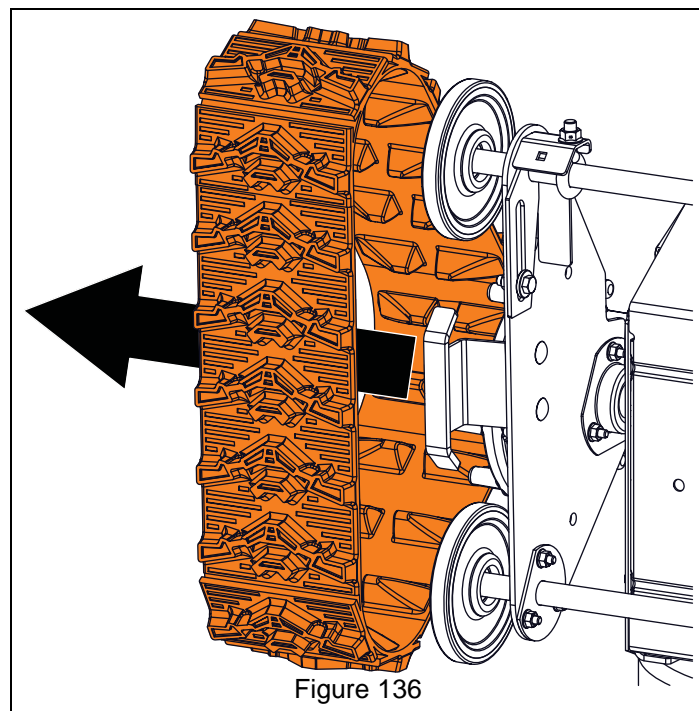

Figure 136
5. Remove track from carriage assembly. See Figure 136.